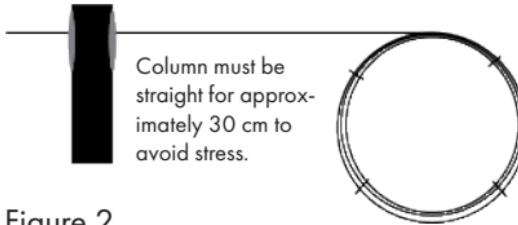

Figure 2
6. Continue to press the *Blade Release Button* (C). Lock the column into the Column Cutter by turning the *Locking Wheel* (A) clockwise until snug.
7. Release the *Blade Release Button* (C). The diamond cutting blade will now be positioned at the surface of the fused-silica column.
8. Position the column in a straight line with no stress on the column, as shown in Figure 2. The column must remain in this position during the cutting process.